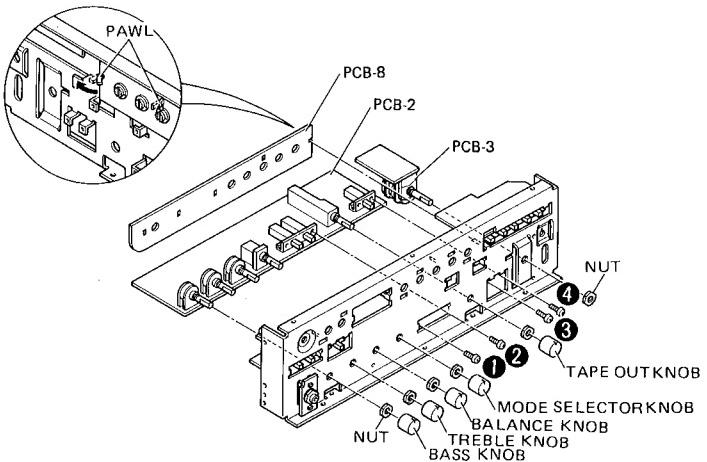

Fig. 5
**TONE CONTROL P.C. BOARD ASSEMBLY (PCB-2)****REMOVAL (Fig. 5)**
27. Remove 4 screws ① to ④ fixing subsonic, high cut and loudness switches and take out P.C. board.
**VOLUME CONTROL P.C. BOARD ASSEMBLY (PCB-3)****REMOVAL (Fig. 5)**
**INDICATION LAMP P.C. BOARD ASSEMBLY (PCB-8)****REMOVAL (Fig. 5)**